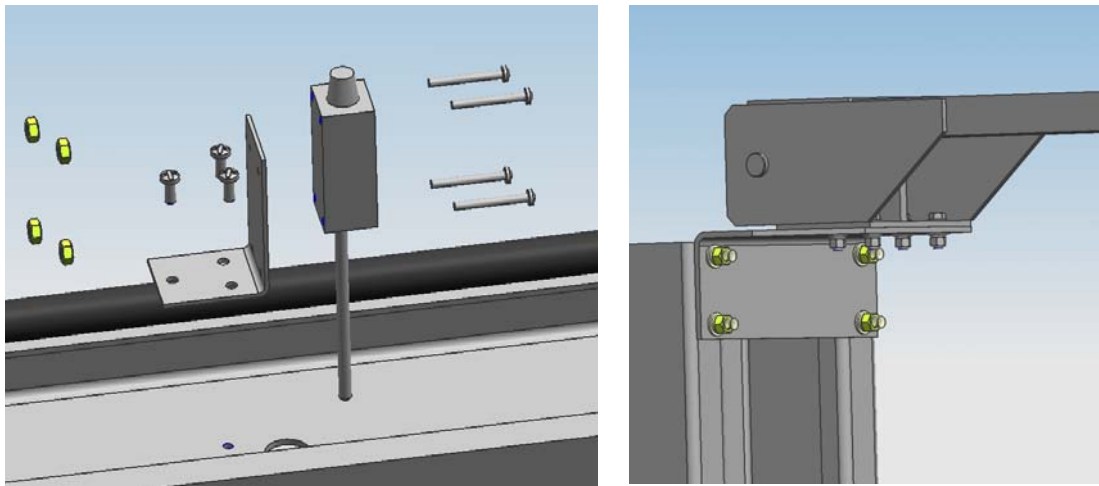

Fig.7
7.6 Install the beam and Limit switch (Fig.7)